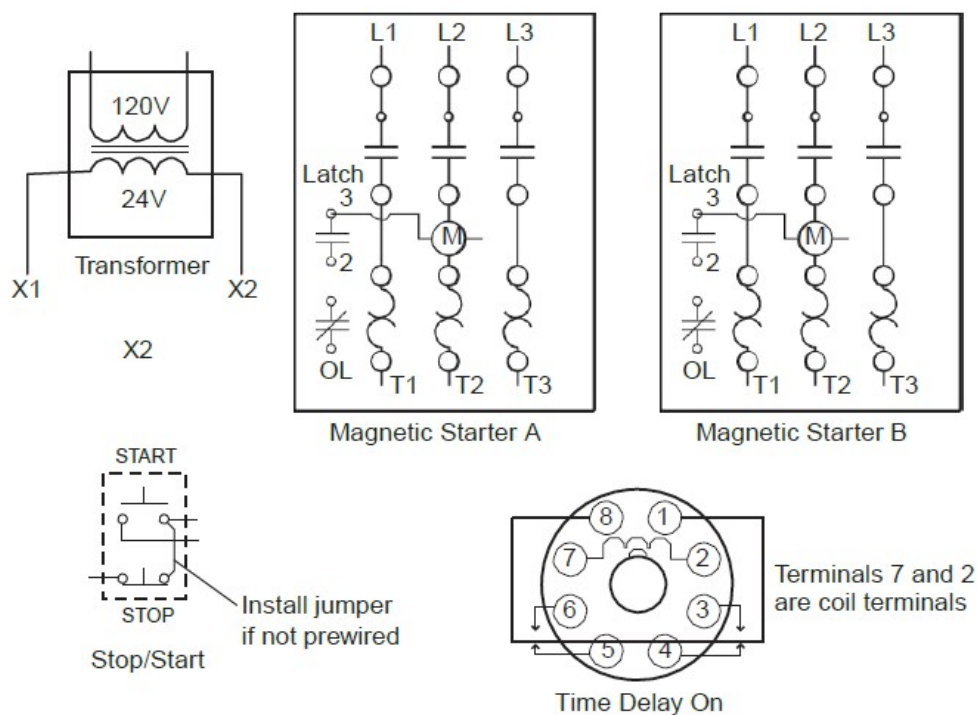

Figure 1 ■ Component Identification and Layout
1. Refer to Figure 1 to identify and mount components to the project board. Mount the components.